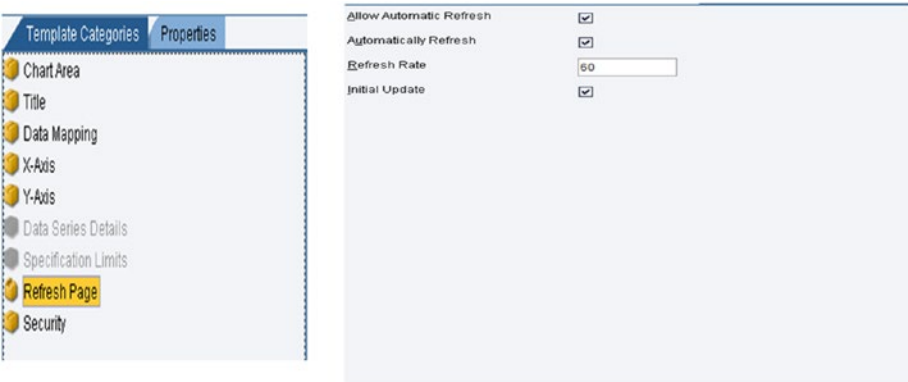

Figure 7-45. i5Chart refresh rate configuration
- **i5Chart Refresh Rate:** The Refresh Page tab sets the refresh rate and the refresh mode (automatic/manual) for the chart. See Figure 7-45.